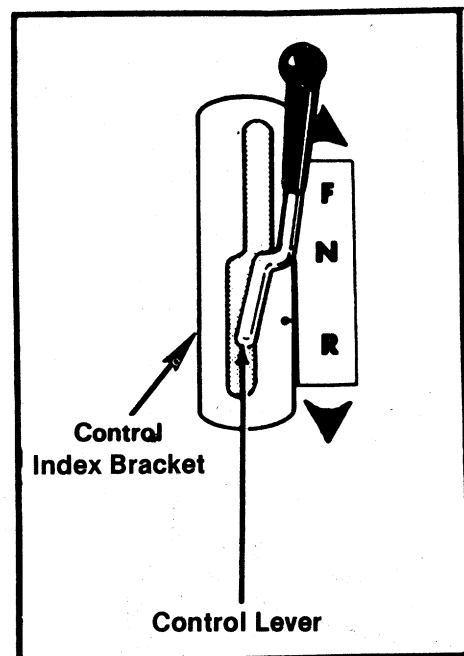

FIGURE 29.
3. Move the control lever to the neutral (N) position. (See figure 29.)